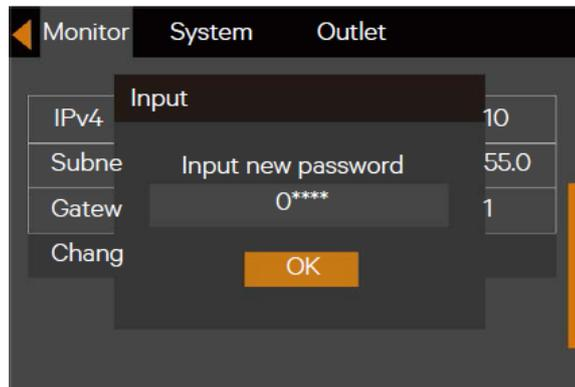

Figure 5-18 Inputting new password
2. Press the  key, the interface shown in Figure 5-18 will appear.